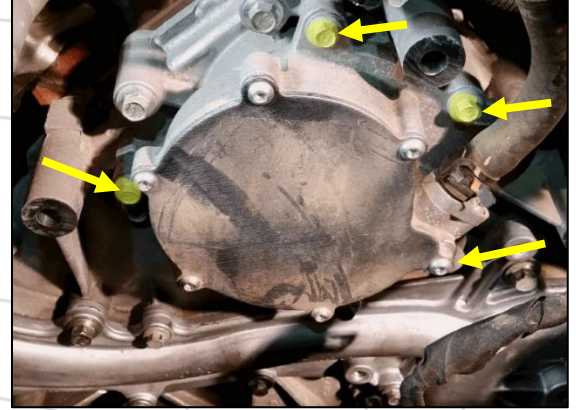

Figure 18: Vacuum Pump Bolt Locations
**29. Disconnect the vacuum line & remove the four 8mm bolts securing the vacuum pump (Figure 18).**
- b. Torque to **89 lb-in** (Figure 18).